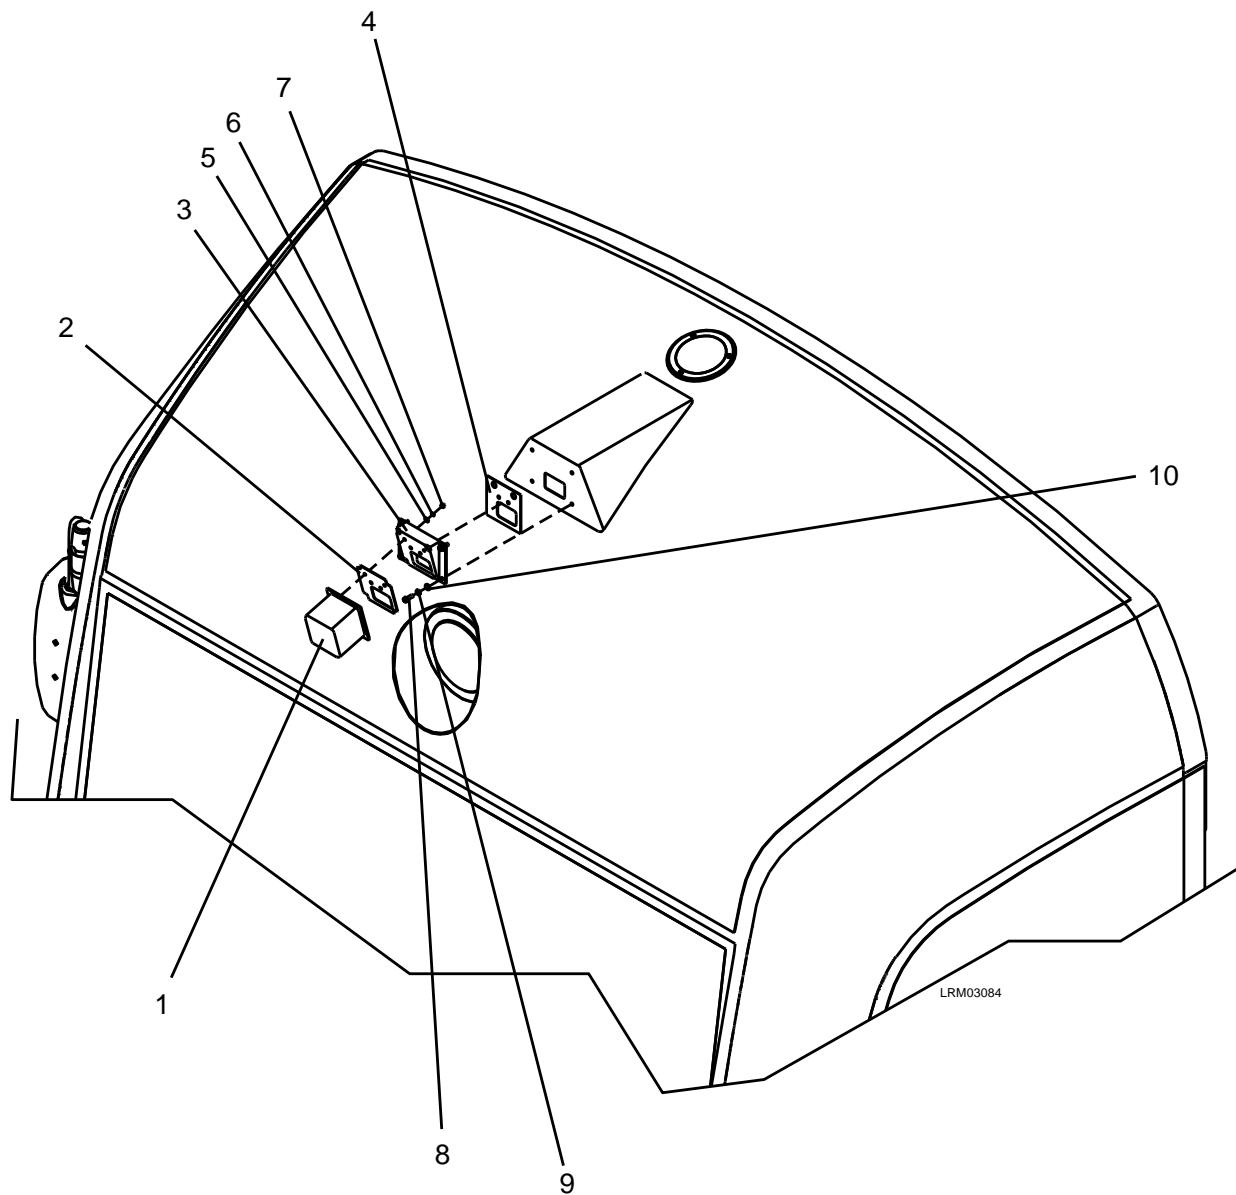

Figure 7-130: Wayside Worker Alert System (WWAS) Antenna
1. Remove the four M6 x 20 screws (8), M6 lock washers (9), and M6 plain washers (10). See Figure 7-130.
2. Carefully remove the WWAS antenna (1) and remove the cable.
3. Remove the gasket (4).
4. Remove the two M5 nuts (7), M5 lock washers (6) and M5 plain washers (5).
5. Carefully remove the mounting block (3).
6. Remove the gasket (2).